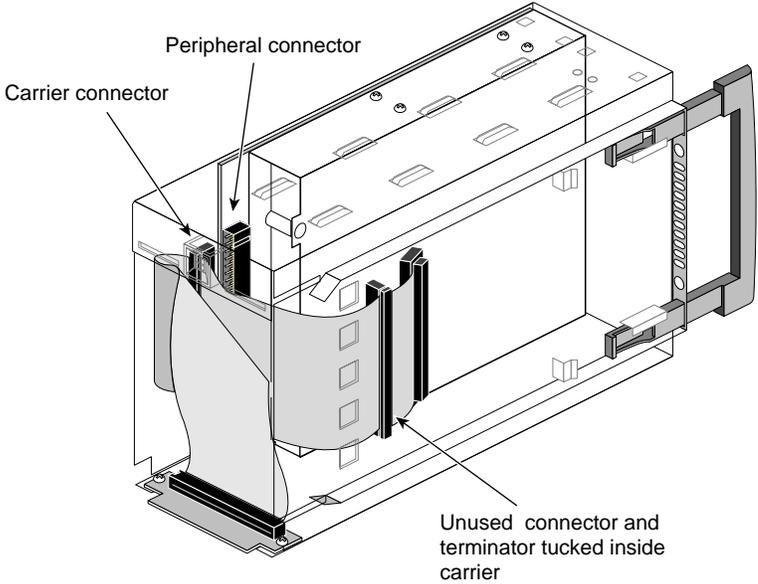

Figure 2-11 Attaching the SCSI Cable to a 5.25-Inch Drive
- 5. Attach one of the connectors on the SCSI cable to the drive. Use whichever connector fits conveniently for the position of the drive's SCSI connector. See Figure 2-11.